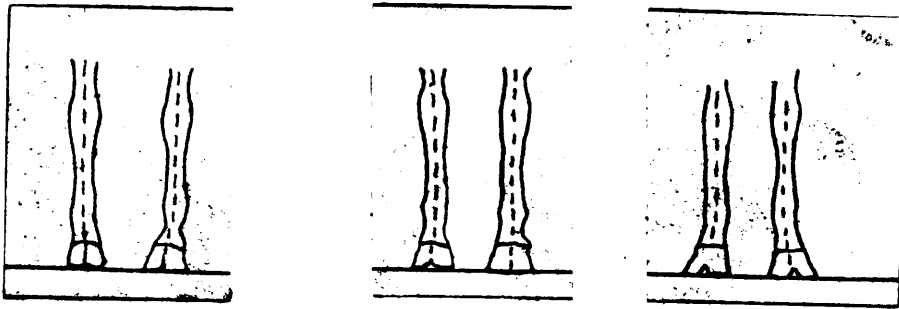

Figure 1.
1. Always look the foot over thoroughly first. As shown in Figure 1 (a), the toe pointing in, where as (c) is the opposite, pointing out. (b) is the correct form.